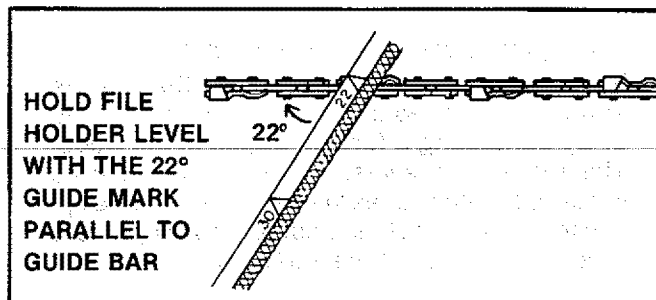

Figure 22
5. Hold the file holder level with the 22° guide mark parallel to guide bar. Figure 22.